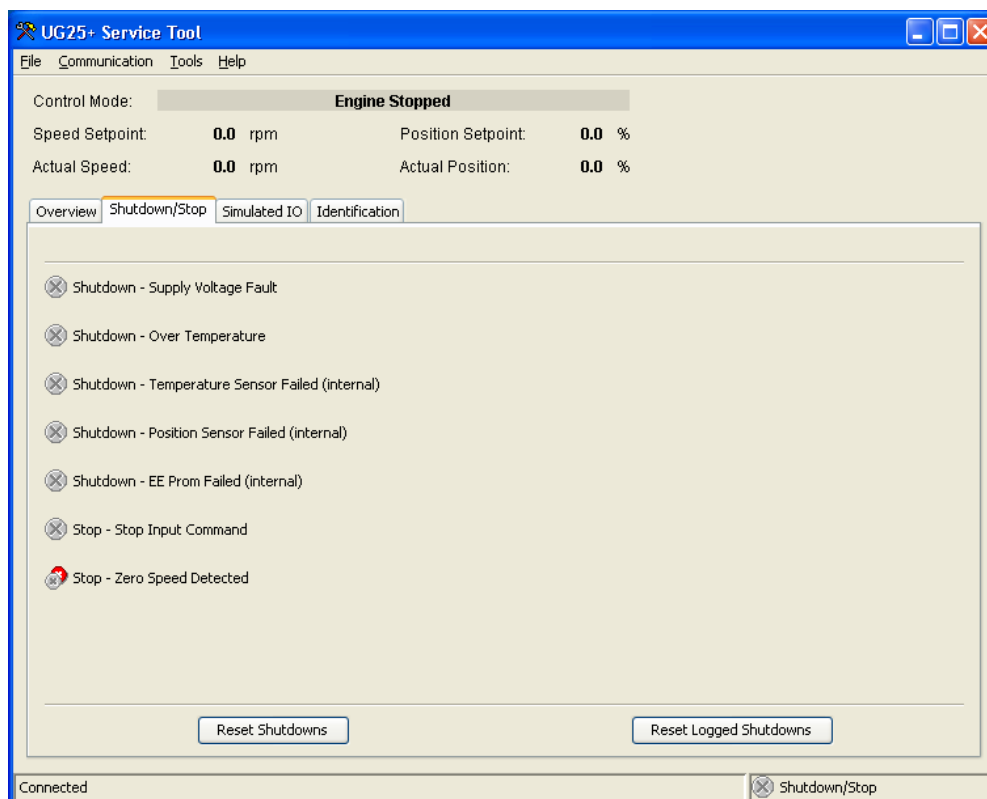

Figure 5-4. Service Tool – Shutdown/Stop Tab
- Shutdown/Stop (see Figure 5-4)
To monitor the shutdown conditions, go to the Shutdown/Stop pages (Figure 5-4) on the main window. The values displayed on the Shutdowns screen dynamically change with the fault configuration. Refer to Chapter 4 for a complete listing and details of all the faults.